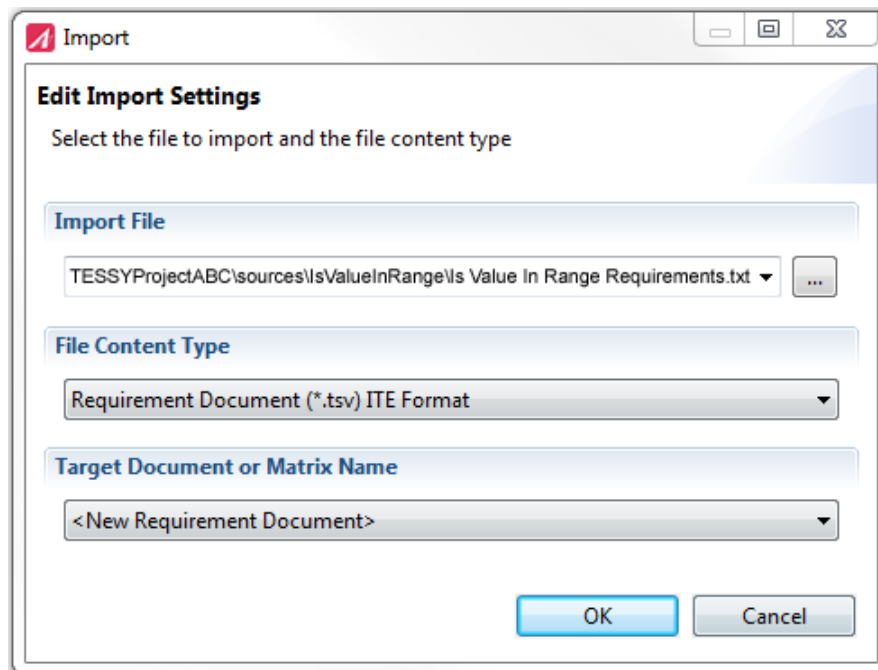

Figure 5.30: Import dialog
- Leave the File Content Type and the Target Document as it is and click “OK” (see figure 5.30).